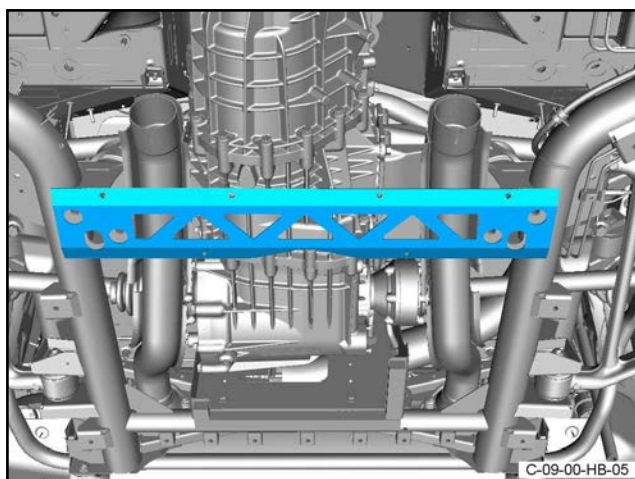

Figure 5
6. Remove the cross brace (refer to Figure 5).